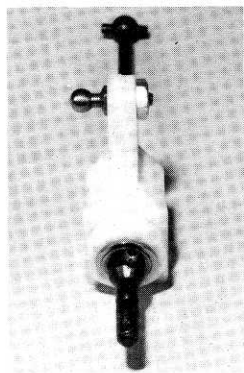

Fig. 86
□ **Figs. 86, 86a & 86b** Install a ball end and nut as shown. Install the LH hub carrier in the LH "A" arm with the #6381 outer hinge pin. Install 2 "E" clips. Install a long ball end in the forward side of the hub carrier, as shown, and install the nut. Install the R.H. hub carrier.